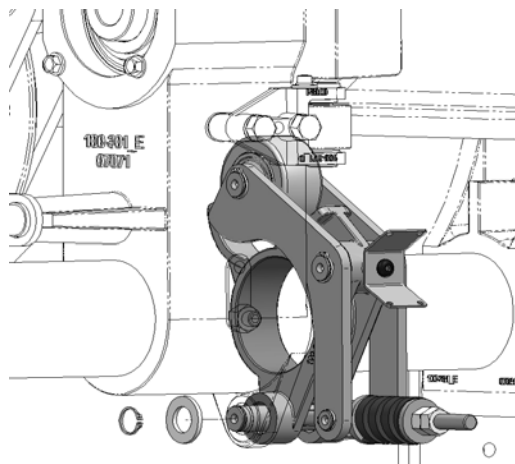

Figure 16 – Withdrawing the Reaction Roller
- Withdraw the reaction roller assembly from the wheel support casting (see Figure 16).